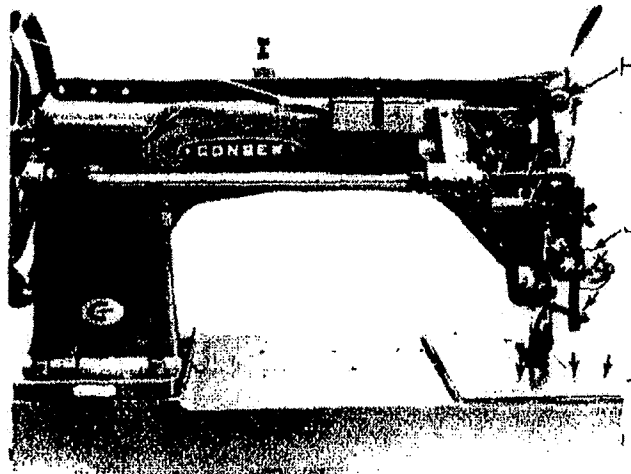

Fig. 11 Oiling Points at Back of Machine
- A. The tension the needle thread is regulated by the thumb nut H Fig.11 at the front of the thread retaining discs and the thumb nut J Fig.11 at the front of the tension wheel. The tension on the thread retaining discs should be only enough to cause the tension wheel to turn when the thread is taken from the spool.